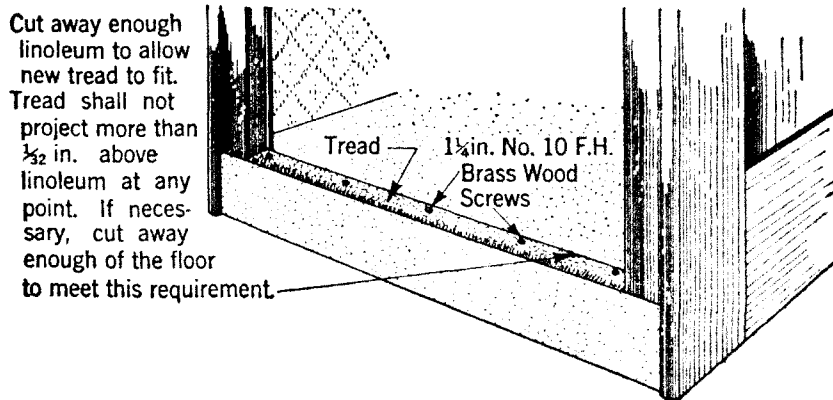

Fig. 9
2.08 Mercury switch leads in the 215A switch or in the 3-type light fixture shall be located one on each side of the tube outside of the spring clip fingers and inside the upright yoke members. The leads shall be taped together with a narrow strip of friction tape near the end of the tube as they leave the switch, as shown in Fig. 9, Section C44.111.